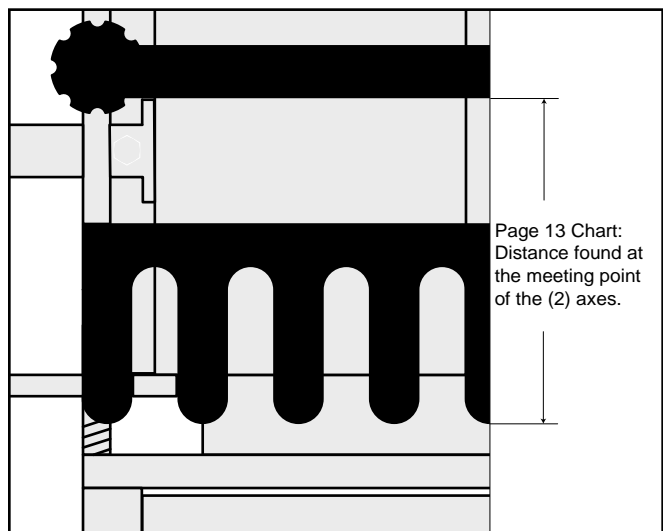

Figure 17. Fence adjustment away from front of template fingers.
4. Adjust the fence accordingly. See **Figure 17**.